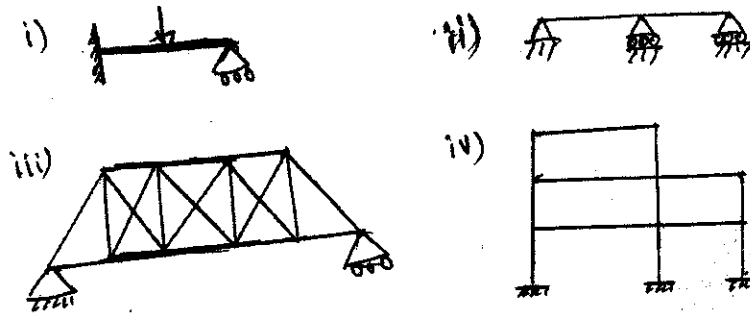

Fig.Q1(c)
- c. Determine static and kinematic indeterminacy for the following shown in Fig.Q1(c).